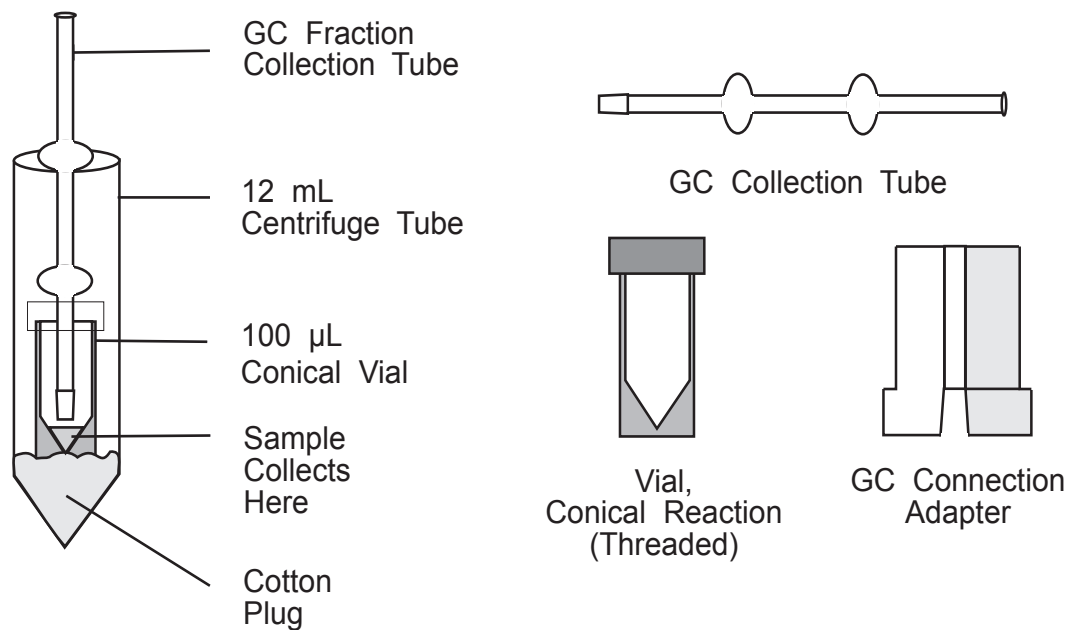

Figure 8-1
6. The collection tube is then connected to a tares 100  $\mu$ L conical vial via the 5/5 joint and placed in a centrifuge tube (cotton padding around the collection tube and bottom of the vial is recommended). Refer to the Figure 8-1. The system is then centrifuged. The collected GC fraction is efficiently packed into the conical vial by this procedure. The vial is then detached from the collection tube, capped and weighed.